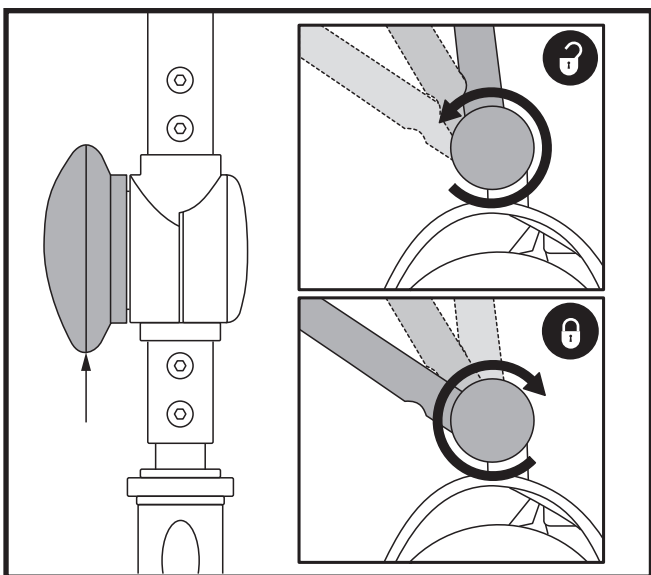

Figure 13. Tiller Adjustment Knob
TILLER ANGLE ADJUSTMENT (See figure 13)
1. With the seat and battery pack removed (see Disassembly Procedures on previous page), lower the tiller and tighten the tiller adjustment knob. **See figure 13.**
3. Raise the tiller and fully tighten the tiller adjustment knob. **See figure 13.**